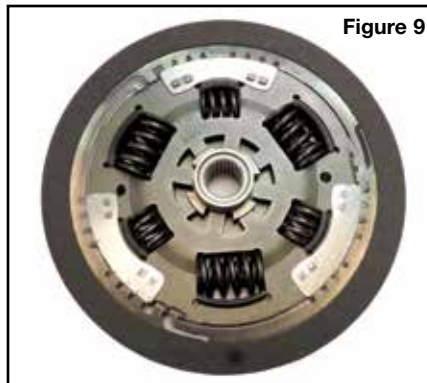

Figure 9
- b. Turn the two OE plates over and replace them back in their original positions, sliding them over the modified rivets (Figure 9).